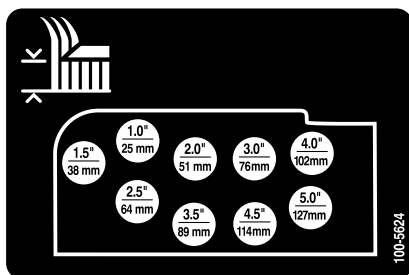

Figure 19
10. Mount the height-of-cut chains to the desired height-of-cut hole with the clevis pin and hairpin cotter (Figure 19).